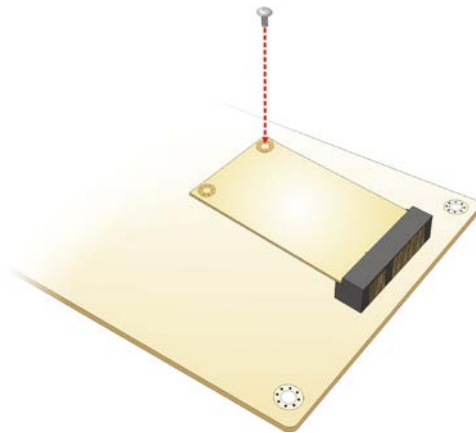

Figure 4-5: Securing the Full-size PCIe Mini Card
Step 5: Secure the full-size PCIe Mini card. Secure the full-size PCIe Mini card with the retention screw previously removed (Figure 4-5).
Step 4: **Secure the half-size PCIe Mini card.** Secure the full-size PCIe Mini card with the retention screw previously removed (**Figure 4-5**).